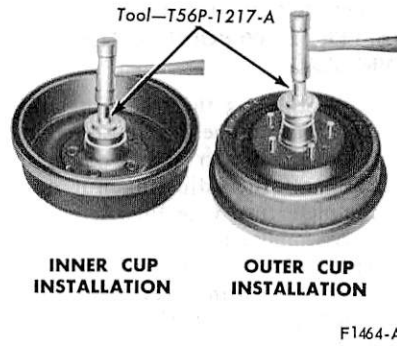

FIG. 1 Installing Bearing Cups
- Remove the cotter pin, nut lock, adjusting nut and washer from the spindle (Fig. 1, Part 11-02).
7. Install the inner and outer bearing cups in the hub with the appropriate installing Tool (Fig. 1). Be sure to seat the cups properly in the hub. The cups will be properly seated when they are fully bottomed. Pack the inside of the hub with CIAZ-19590-B wheel bearing grease. Fill the hub until the grease is flush with the inside diameters of both bearing cups. Pack the bearing cones and rollers with wheel bearing grease. Use a bearing packer for this operation. If a packer is not available, work as much lubricant as possible between the rollers and cages. Lubricate the cone surfaces with grease.
10. Install the inner and outer bearing cups in the hub with the appropriate tool (Fig. 1). Check for proper seating of the new bearing cups by trying to insert a 0.0015 inch feeler gauge between the cup and wheel hub. The feeler gauge should not enter.